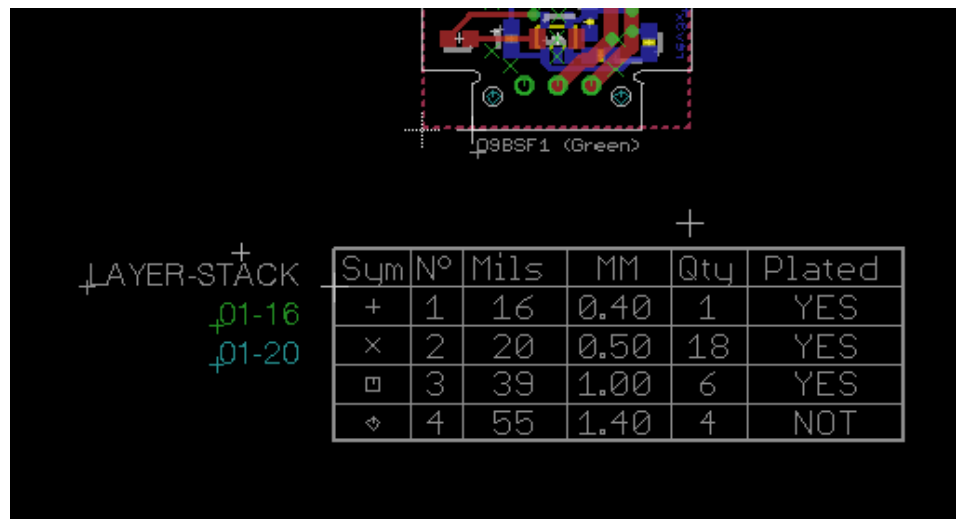

Figure 5: Example of a chart created by the drill ULP on the .brd file.
7.5.2 The chart created by running the drill ULP should be placed below the PCB (see Figure 5).